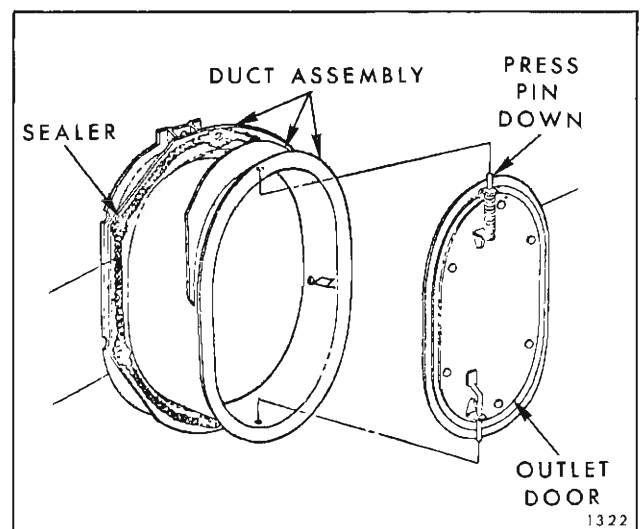

Fig. 2C14—Shroud Side Air Outlet Duct Assembly and Sealing
4. Depress upper door pin to disengage pin and remove door. (Fig. 2C14).